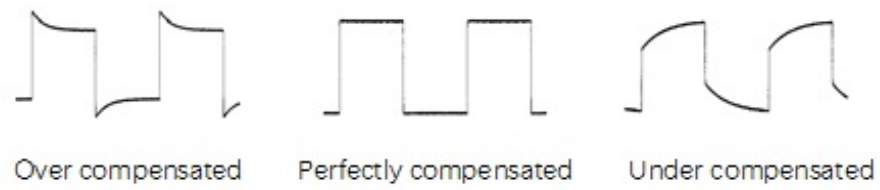

Figure 5.7 Probe Compensation
- Check the displayed waveforms and compare them with the waveforms shown in *Figure 5.7*.